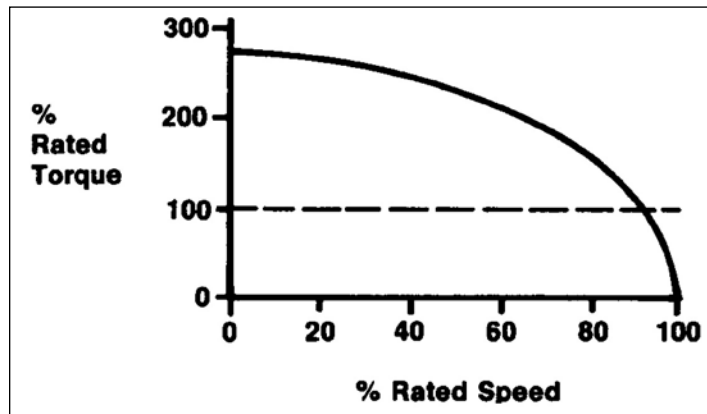

Figure 12 AC induction motor: Design D.
**Design C.** Uses a two-cage rotor design—high-resistance for starting and low-resistance for running (Fig. 12). This creates a high starting torque with a normal starting current and low slip. During starting most of the current flows in the low-inductance, outer bars. As the rotor slip decreases, current flows more in the inner, low-resistance bars.